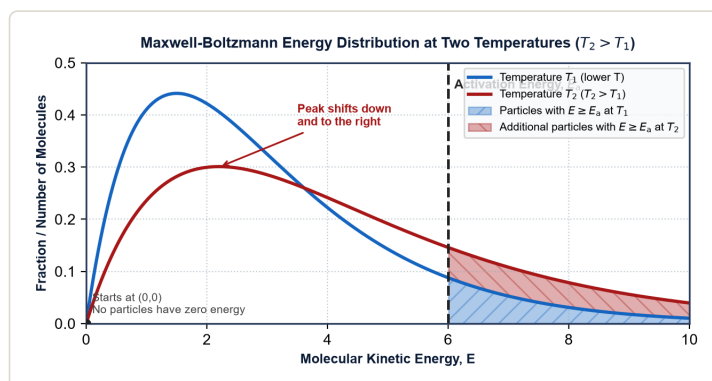

Fig. 8.2: Maxwell-Boltzmann kinetic energy distribution curves at temperatures T_1 and T_2 .
Fig. 8.2 shows the Maxwell-Boltzmann distribution of molecular kinetic energies for a gas sample at temperatures T_1 and T_2 (where $T_2 > T_1$).
- (d) With reference to Fig. 8.2, explain why a modest increase in temperature results in a substantial increase in the rate of reaction.